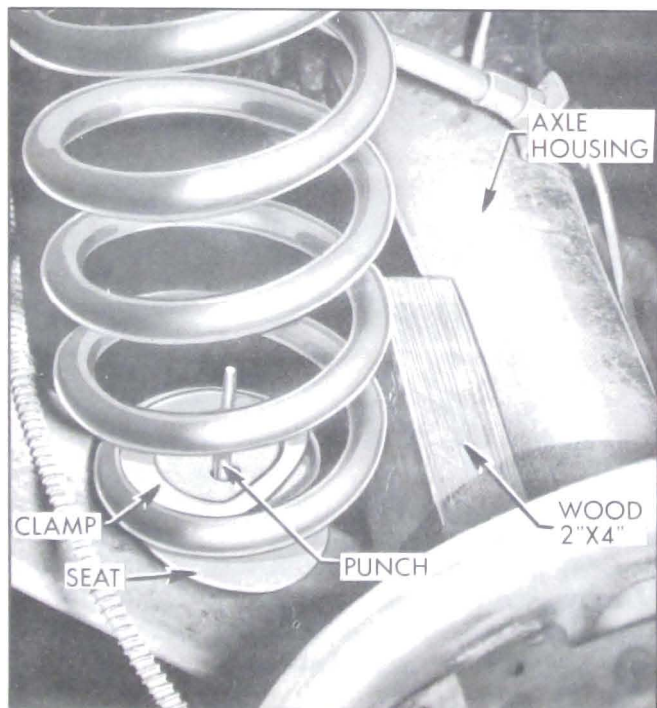

Figure 7-20—Wood Block Behind Rear Spring
2. Place a short piece of 2 x 4 between lower end of spring and axle housing. See Figure 7-20. This assembly aid holds the spring forward on the lower control arm to facilitate attachment of the spring to the lower control arm.
4. Disconnect shock absorber at lower end. Lower rear axle assembly to allow positioning of spring in its seat on the lower control arm. Place a short piece of 2 x 4 between the lower end of the spring and axle housing. See Figure 7-20. This assembly aid holds the spring forward on the lower control arm to facilitate attachment of the spring to the lower control arm.